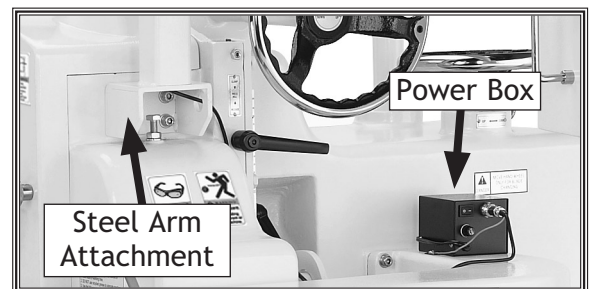
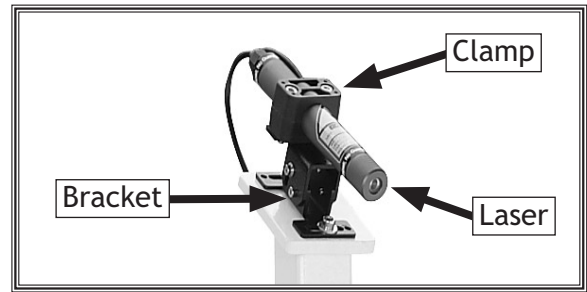

Figure 3. Location of steel arm attachment and power box.
Figure 4. Laser guide attached.
4. Mount the laser bracket to the top of the steel arm with the (2) M6-1 x 16 cap screws and flat washers (see Figure 4).
5. Place the laser clamp around the laser and secure the assembly to the laser bracket with the (2) M6-1 x 35 cap screws.
6. Attach the black power box to the rip saw with the (2) M5-.8 x 8 Phillips head screws (see Figure 3).